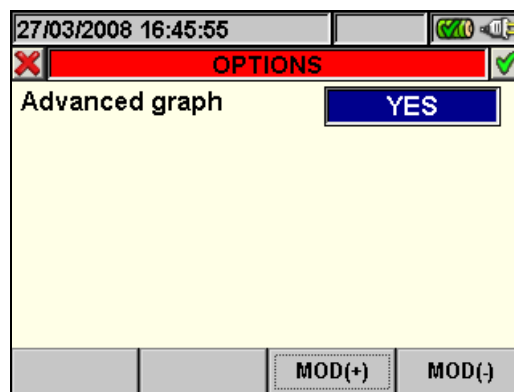

Fig. 101: Options (Advanced graph)
- **F4** key (or **OPTIONS** item on the display) to access the page for the activation of the “Advanced graph” (Fig. 101)
2. Press the **F4** key (or the **OPTIONS** item on the display) to access the page for the activation of the Advanced graph (Fig. 101).